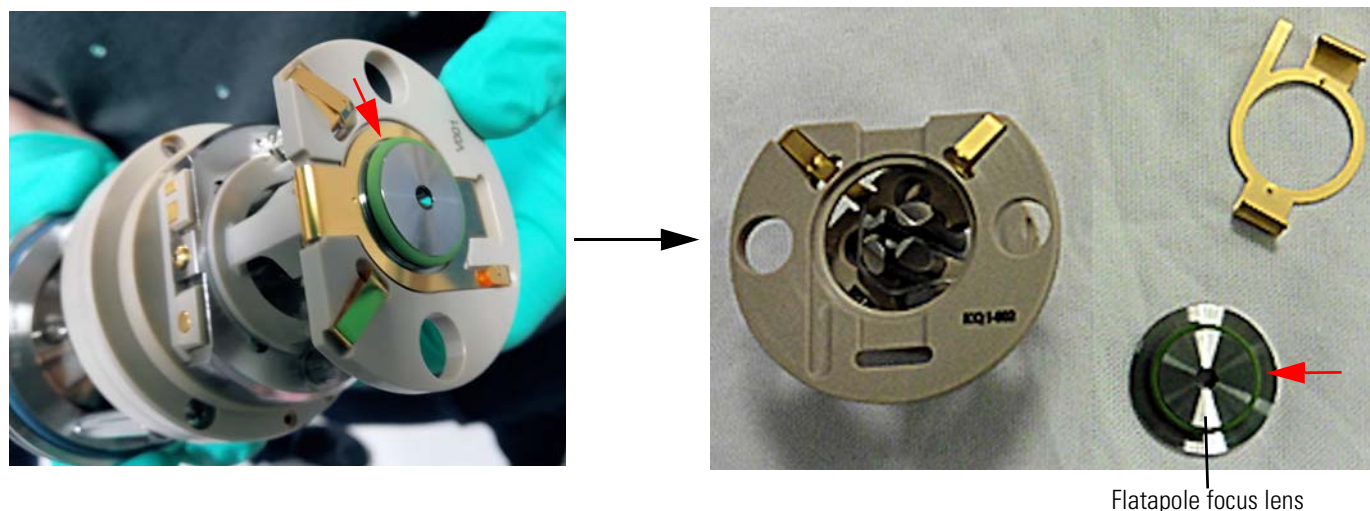

Figure 8-9. Disassembling the injection filter
3. Remove the O-ring (indicated by an arrow in Figure 8-9).